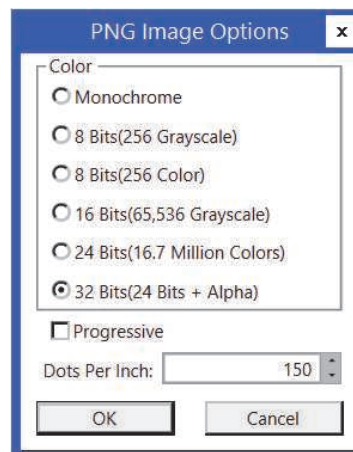

Figure 10–61
4. In the Image Options dialog box, select the *Color* quality and click **OK**. For example, the dialog box for a PNG image is shown in Figure 10–61.